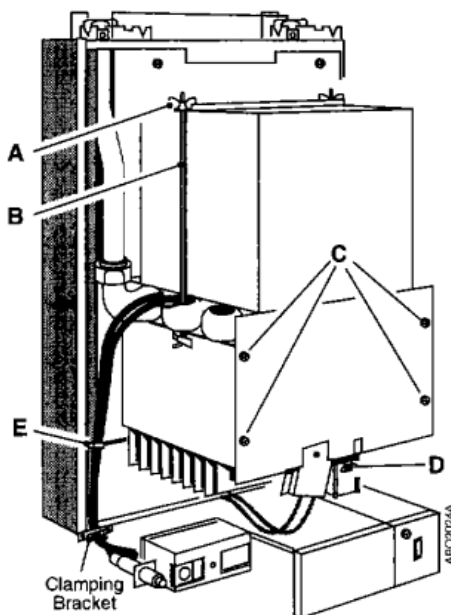

Fig. 16
5. Remove the two wing nuts 'A' and tie rods 'B' in Fig. 16, securing the flue hood to the combustion chamber and remove the flue hood by withdrawing it forwards.
6. Remove the four screws 'C' and wing nut 'D' in Fig. 16, securing the combustion chamber front cover and withdraw the cover.
8. Remove the clamping bracket, See Fig. 16, which retains the pilot supply, electrode lead, thermocouple and the overheat cut-off device leads at the bottom left hand corner of the chassis.
8. Replace the clamping bracket, See Fig. 16. Ensure that the pilot supply, electrode lead, thermocouple and overheat cut-off device leads are behind the clamping bracket.
4. Remove the clamping bracket, See Fig. 16, which retains the pilot supply, electrode lead, thermocouple and the overheat cut-off device leads at the bottom left hand corner of the chassis.
12. Replace the clamping bracket, See Fig. 16. Ensure that the pilot supply, electrode lead, thermocouple and overheat cut-off device leads are behind the clamping bracket.
3. Remove the clamping bracket, See Fig. 16, which retains the pilot supply, electrode lead, thermocouple and the overheat cut-off device leads at the bottom left hand corner of the chassis.
9. Replace the clamping bracket, See Fig. 16. Ensure that the pilot supply, electrode lead, thermocouple and overheat cut-off device leads are behind the clamping bracket.
2. Slacken the two wing nuts, 'A' in Fig. 16, securing the flue hood and remove the burner as described in Section 4.1, Paras 6 to 15.